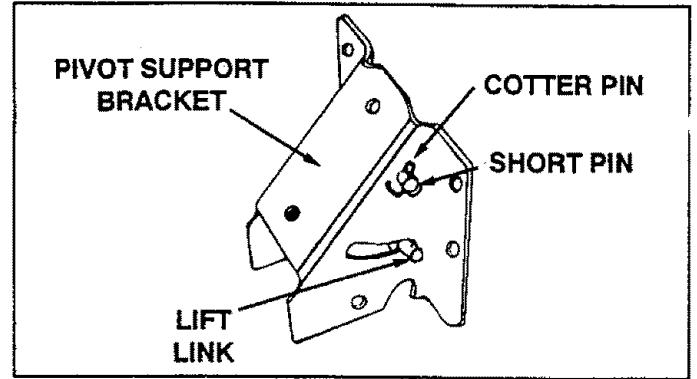

FIGURE 16
- Place the lift link inside the pivot support bracket. The long pin on the lift link goes through the slot in the pivot support bracket. The short pin goes through the hole shown in figure 16. Secure short pin with 1/8" x 1-1/4" cotter pin.